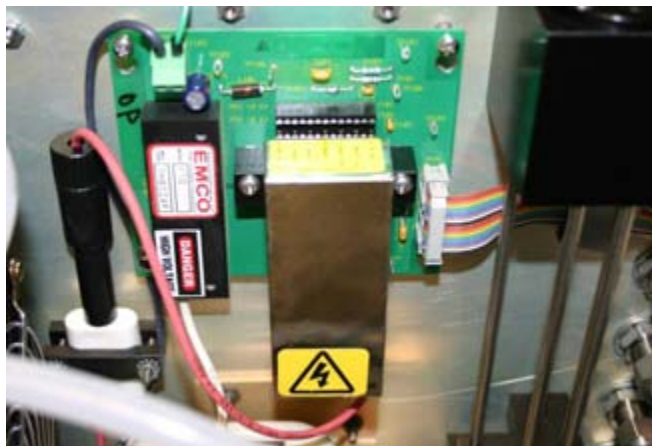

Figure 6-15
7. Connect the HV controller connector onto the white post on the left side of the electrical board. Figure 6-15 shows the positive HV controller after it is installed.